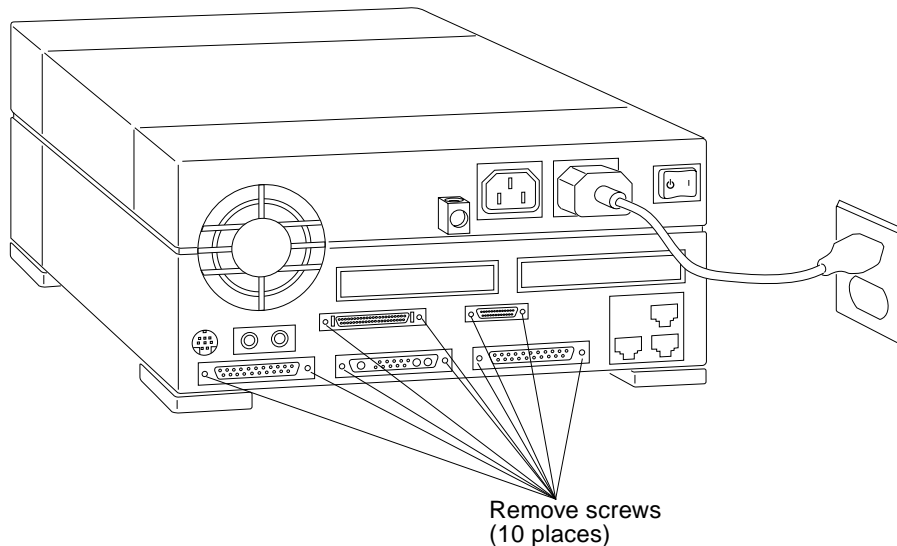

FIGURE 8-7 Removing the System I/O Board
2. Use a small flat-blade screwdriver to remove the 10 screws that secure the system I/O board to the system unit chassis (see FIGURE 8-7). Take care to remember where each screw belongs.
- b. **Align the screw holes in the chassis with the holes in the system I/O board and secure the board with the 10 screws provided (see FIGURE 8-7). (Replace the plastic connector covers, if necessary.)**